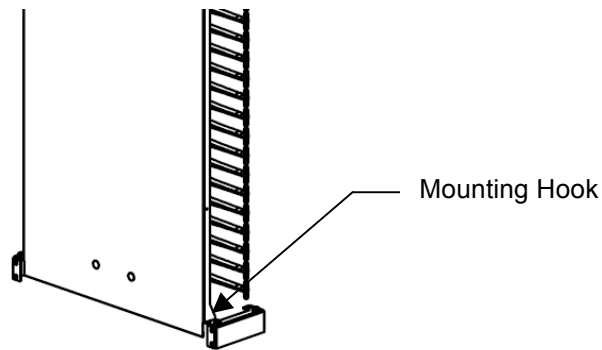

Figure 2
4. Use the mounting hooks at the bottom of the side panel to lock the panel onto the bottom frame member. See Figure 2.